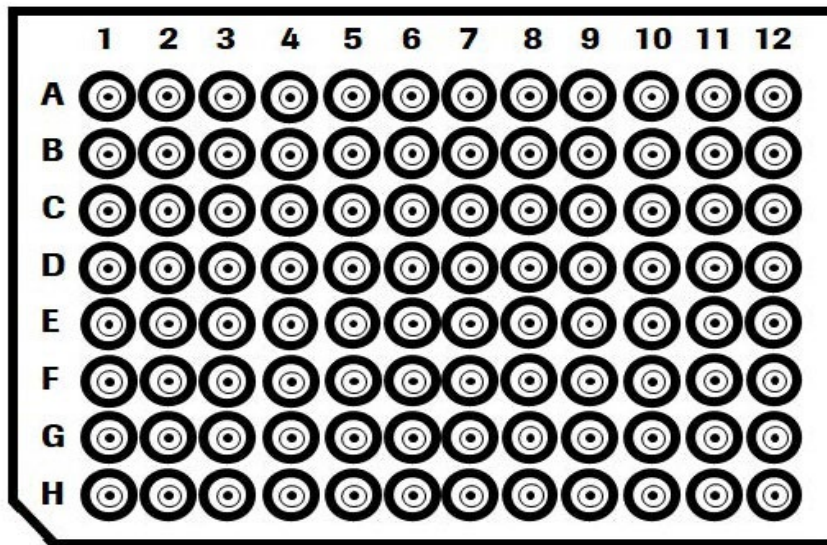

Figure 2: KAPA UDI Primer Mixes plate layout.
3. Before removing the foil cover, please ensure the plate is in the correct orientation before proceeding. In order to have well position A1 on the top left corner, the notched corner must be facing the user on the bottom left as shown in Figure 2.